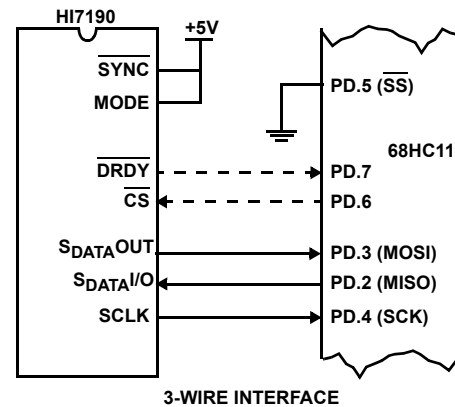

FIGURE 5. HI7190 INTERFACE TO 68HC11
The Serial Peripheral Data I/O register in the microcontroller initiates transmission/reception of a byte. The SPI port on the microcontroller is configured using the Serial Peripheral Control Register. Many devices contain SPI ports such as the 6805, and 6802 but this discussion will center on the 68HC11. When connecting an HI7190 Sigma-Delta A/D converter to the SPI Port of the 68HC11 the user has many configuration options available. The serial clock generation can be generated by the HI7190 using Self Clocking mode or by the 68HC11. In Figure 5 the HI7190 is configured as the clock master for the SPI port. This is accomplished by pulling the MODE line on the HI7190 high ('1') and grounding the Slave Select (SS) pin of the microcontroller. Conversely, if the microcontroller was to be the clock master then the SS line would be tied high and the MODE pin grounded. The DRDY line of the A/D converter can be monitored via an interrupt scheme or by using simple polling. The programming example uses a polled status scheme.